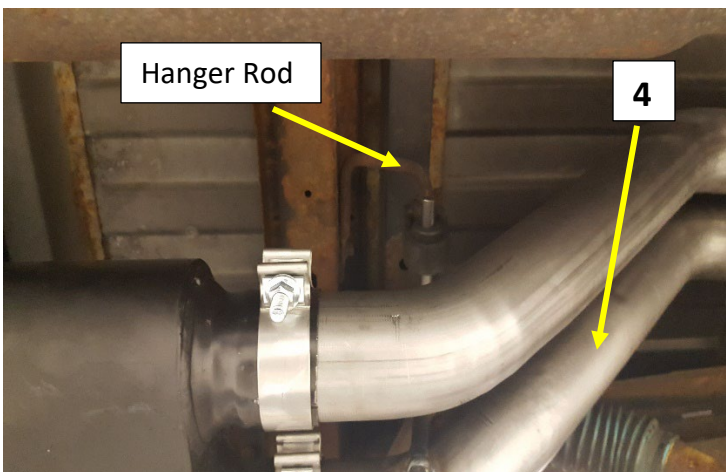
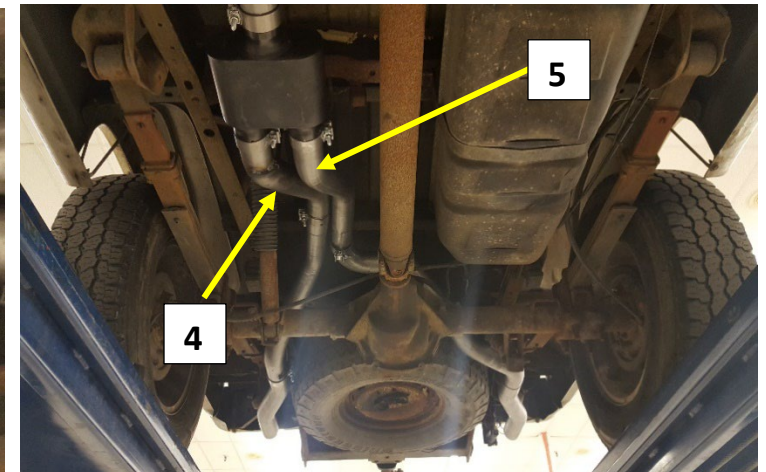

Figure.6
Figure.7
12. Install the right muffler outlet pipe (4) hanger rod into the OEM rubber isolator, insert the pipe into the muffler **Fig.6/ Fig.7**. Tighten the clamp to allow for adjustment. Adjust the pipe for 1" to 1.5" clearance on the shock. Tighten the clamp. **Fig.6**
13. Install the Left Muffler Outlet pipe (5) into the muffler. Rotate the pipe up to within ¼" of the right muffler outlet pipe and tighten the clamp. **Fig.7**